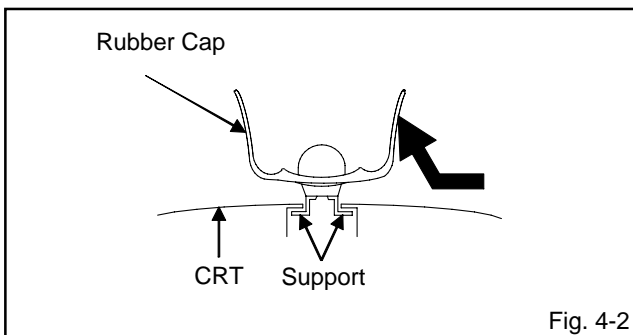

Fig. 4-2
2. Flip up the sides of the Rubber Cap in the direction of the arrow and remove one side of the support. (Refer to Fig. 4-2.)